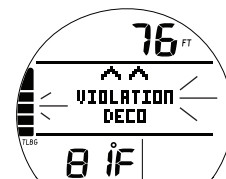

Fig. 111A - FREE VIOLATION (entry into Deco, during Aud)
In the event that nitrogen continues to increase and reaches the Deco level; the Audible will sound, during which all 5 TLBG segments, (2) Up Arrows, and the graphics VIOLATION DECO, will flash (Fig. 111A).